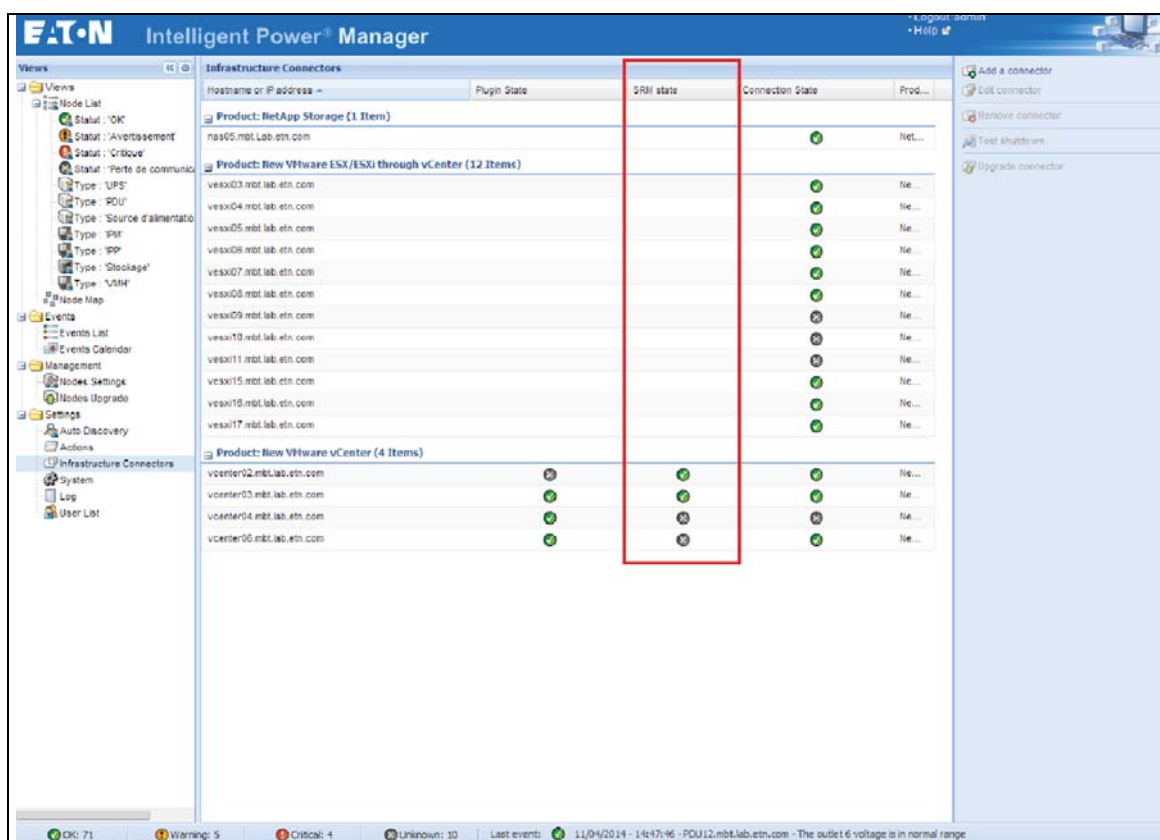

Figure 255. Infrastructure Connectors
- You should now see a new column for SRM state in the Infrastructure Connectors panel (see Figure 255).